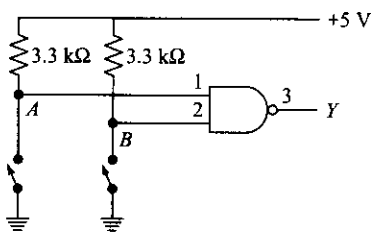
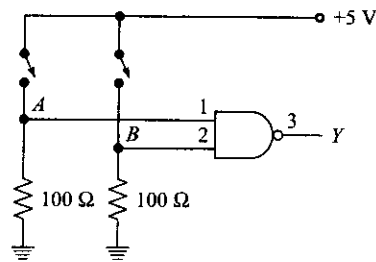

Fig. 14.52
Fig. 14.53
14.27 In Fig. 14.52, what does output Y equal when each switch is open? When either switch is closed?
14.28 What is the current drain through the pull-up resistors when both switches are closed in Fig. 14.52? What is the time constant for each input when the switches are open?
14.29 In Fig. 14.53, what does the output Y equal when either switch is open? When both are closed? This is not a preferred method of driving TTL loads. Try to figure out two reasons why this circuit is not as good as the circuit shown in Fig. 14.52.